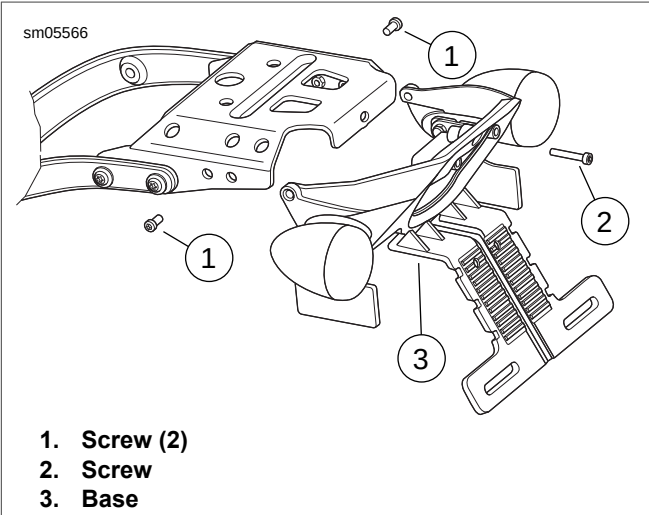

Figure 6-49. Tail Lamp Base: XR 1200X
7. **XR 1200X:** See Figure 6-49. Remove base as follows:
8. **XR 1200X:** See Figure 6-49. Install base as follows: